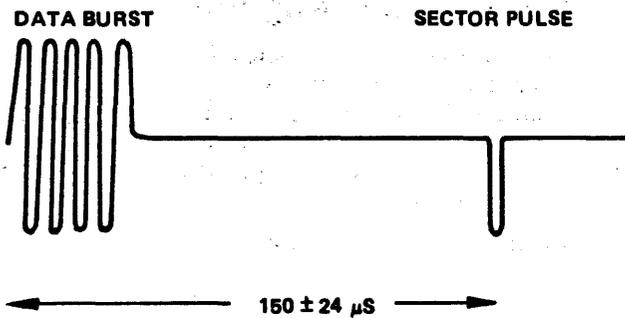

Figure 4-3. Oscilloscope Wave Forms
4. Seek track 40, head 0 (refer to Alignment Track Selection using B 80 MTR). The waveform displayed should be as shown in figure 4-3.
- Seek track 40, head 1 (refer to Alignment Track Selection using B 80 MTR). The waveform displayed should be as shown in figure 4-3.